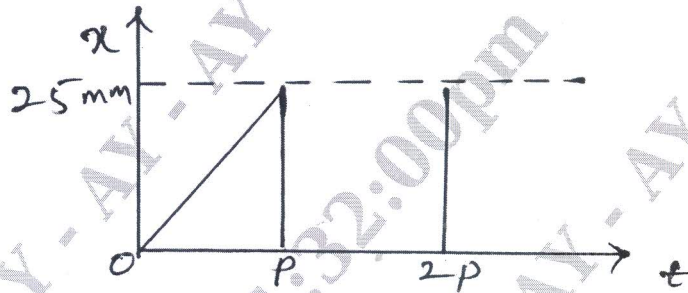

Fig.Q1(b)
- b. Saw tooth periodic motion of a follower operated by a cam is shown in Fig.Q1(b). Represent the motion by a Harmonic series. The cam rotates uniformly at 60 rpm and the lift of follower is 25mm.